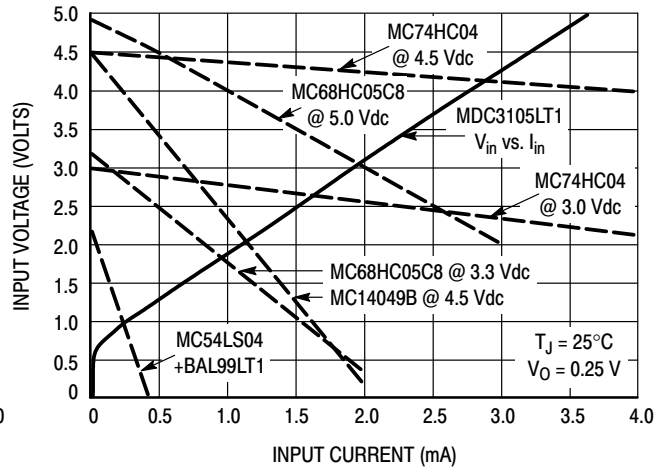

Figure 3. Input V-I Requirement Compared to Possible Source Logic Outputs
6. For levels of input current above  $100\ \mu\text{A}$ , enter Figure 3 using that max input current and determine the input voltage required to drive the MDC3105 from the solid  $V_{in}$  versus  $I_{in}$  line. Select a suitable drive source family from those whose dotted lines cross the solid input characteristic line to the right of the  $I_{in}$ ,  $V_{in}$  point.